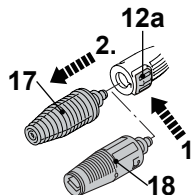

Fig. 24
8. Press the unlock button (12a) and disconnect the rotary nozzle (17) or vario nozzle (18) from the extension lance (12) (Fig. 24).